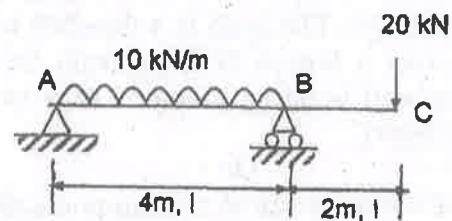

Fig.Q.15(b)
- (b) Analyse the continuous beam shown in Fig.Q.15(b) using moment distribution method.